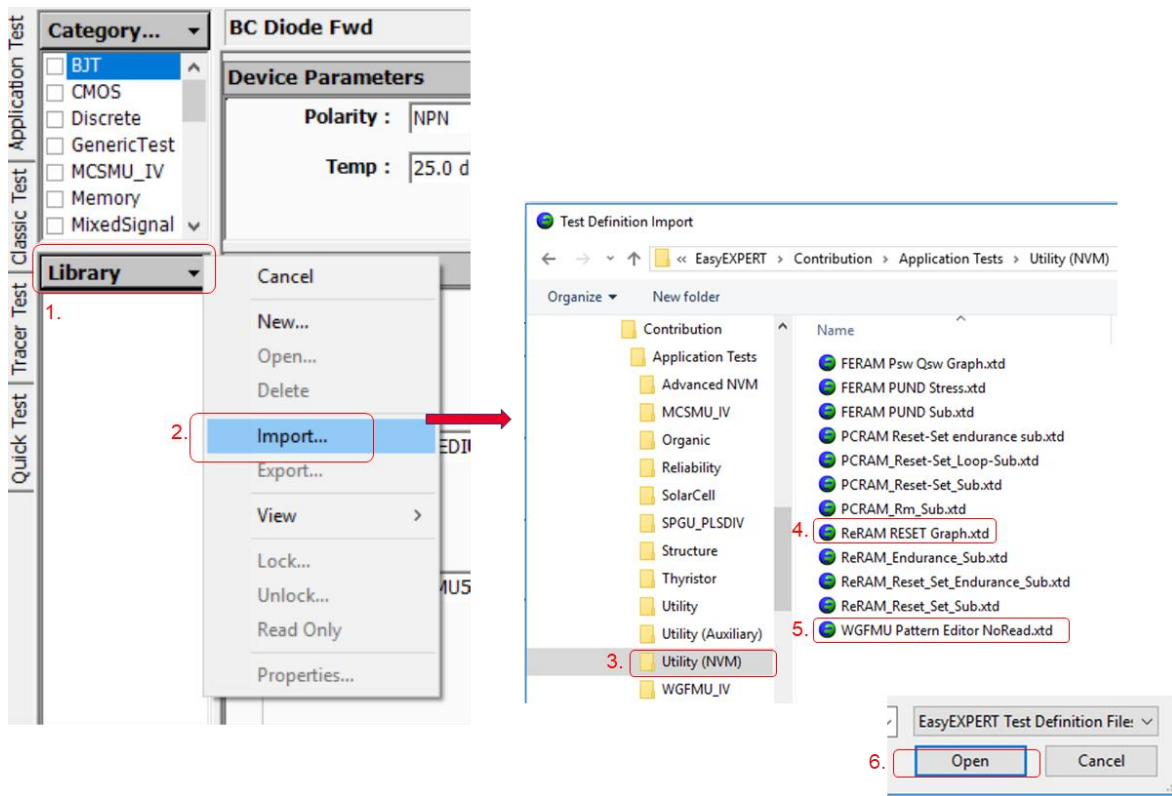

Figure 3-10. ReRAM Application Test installation example.
The Advanced NVM Application Test can be installed unit by unit of each NVM group. The step by step instructions for installing the ReRAM NVM group to the existing Workspace are shown. Follow the steps below for ReRAM Installation order, 1st column of Table 3-1, by referring to the corresponding numbers as shown in the installation example at Figure 3-10.
3. Install the Application Test to the existing Workspace in the same way as shown in Figure 3-10.